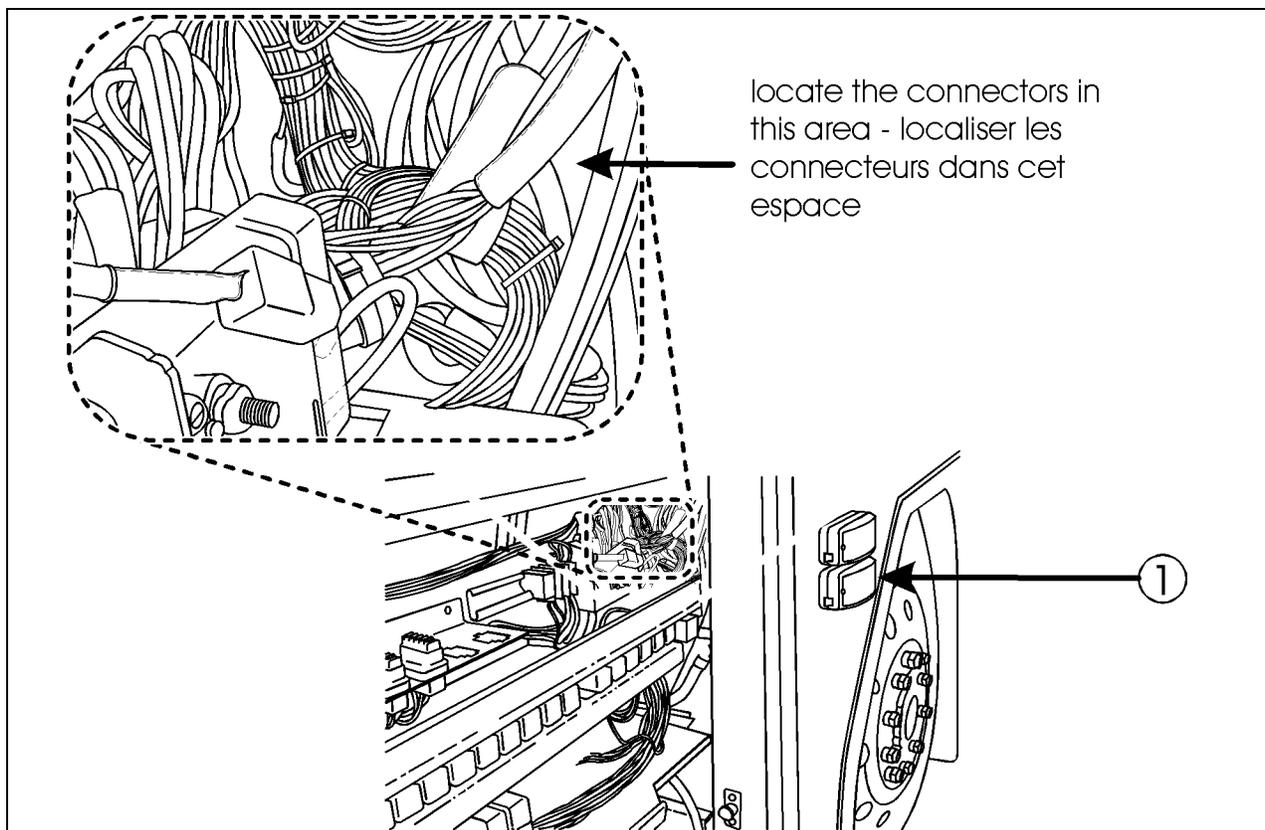

FIGURE 1 : MARKER LIGHT
1. Locate the two marker lights beside the front electrical compartment. Dismount the lower one (item figure 1).
3. Open the front electrical compartment door. Referring to figure 1, check if there is water in the area behind the marker lights.
4. In the same area, connectors (C45, C500, C506, etc.) must be fastened to a nearby wire harness to keep them off the floor and out of humidity (figure 1). Use cable ties.